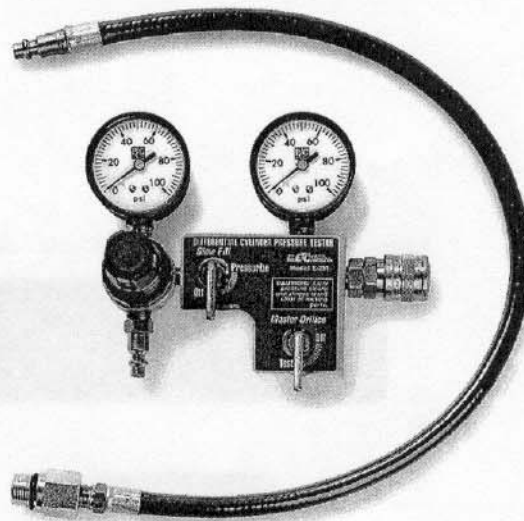

FIGURE 1
- Eastern Technology Corporation Model E2M①. See Figure 1. **Recommended by TCM.**